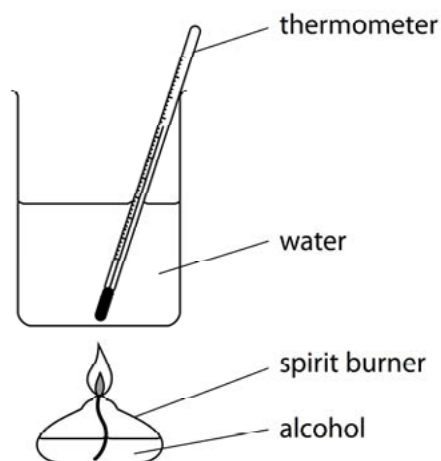

Figure 9
- (d) The temperature rise in water when liquid fuels burn can be found using the equipment shown in Figure 9.